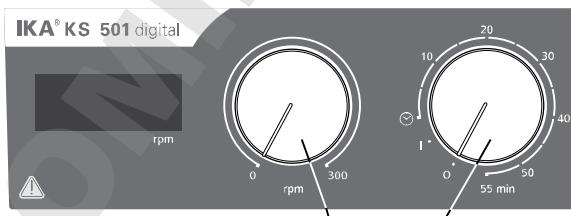

Fig. 3
- ⇒ To switch the device on, turn the "On/Off" and "Timer" rotary knob (B, see Fig. 3) clockwise to the "1" position.
- ⇒ To switch the device off, turn the "On/Off" and "Timer" rotary knob (B) to "0" position.
- ⇒ To switch the device on, turn the "On/Off" and "Timer" rotary knob (B) clockwise after the "0" position.
- ⇒ Set the motor speed by turning the "Speed" rotary knob (C, see Fig. 3). The motor speed can be set to between 0 to 300 rpm.